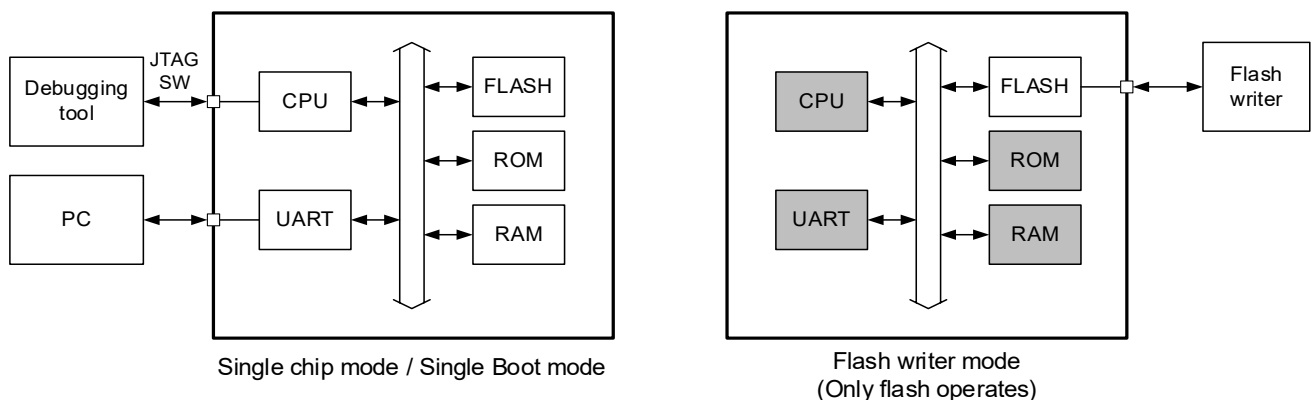

Figure 5.1 Measures for Security Risk
TMPM4K Group(1) contains two measures for security risk to prevent unauthorized access. Table 5.22, Table 5.23 and Figure 5.1 show the assumed access paths and protection targets for each operation mode.